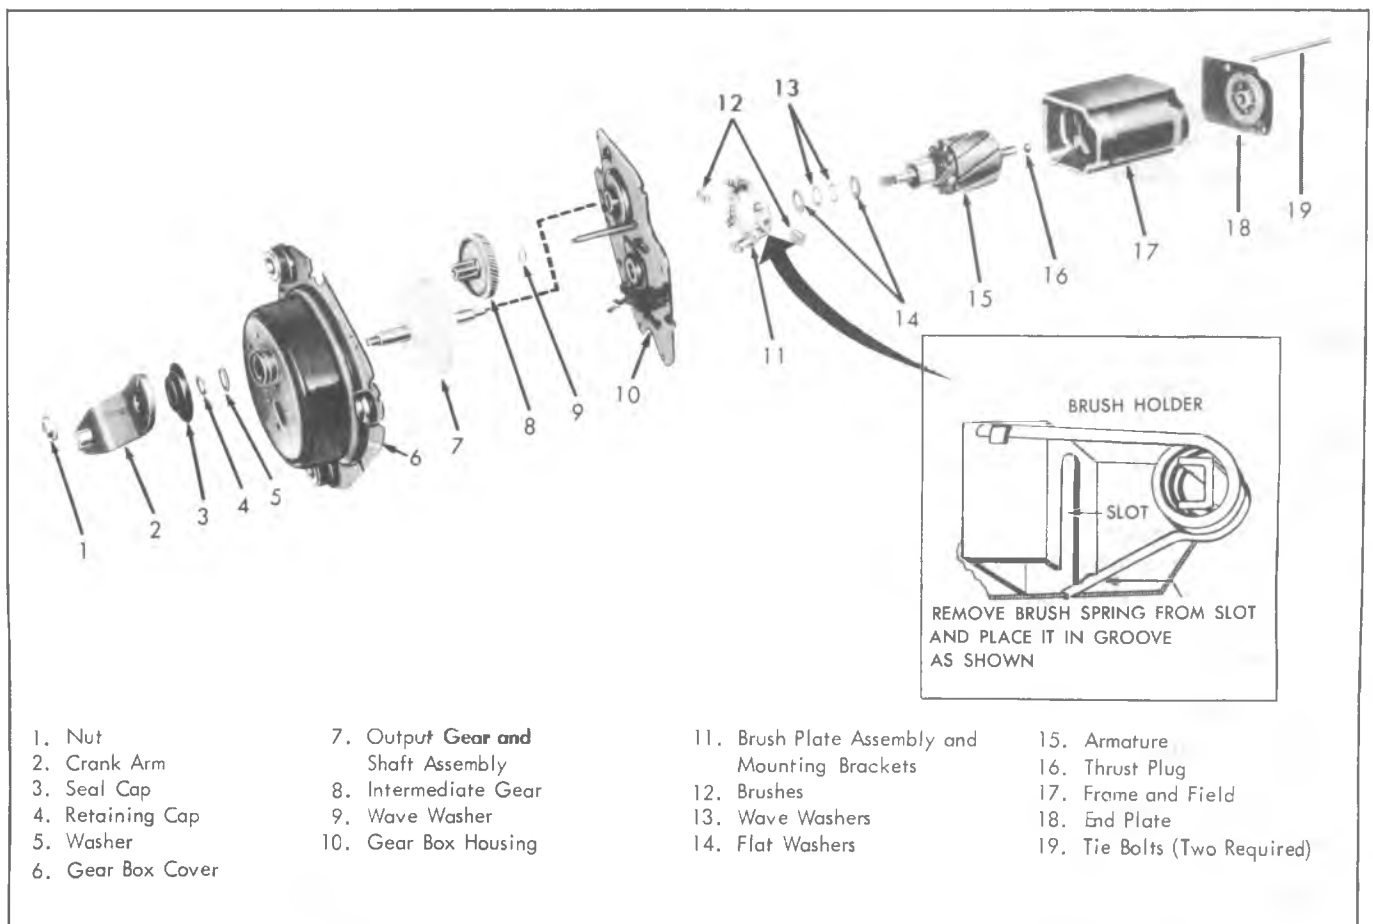

Fig. 8-45-Wiper Motor and Gear Box Assembly
Disassembly (Fig. 8-45)
3. Remove brush spring tension (fig. 8-45), slide armature and end plate from motor frame. Pull end plate from armature.
Refer to Figure 8-45 for exploded view of motor and gear train.